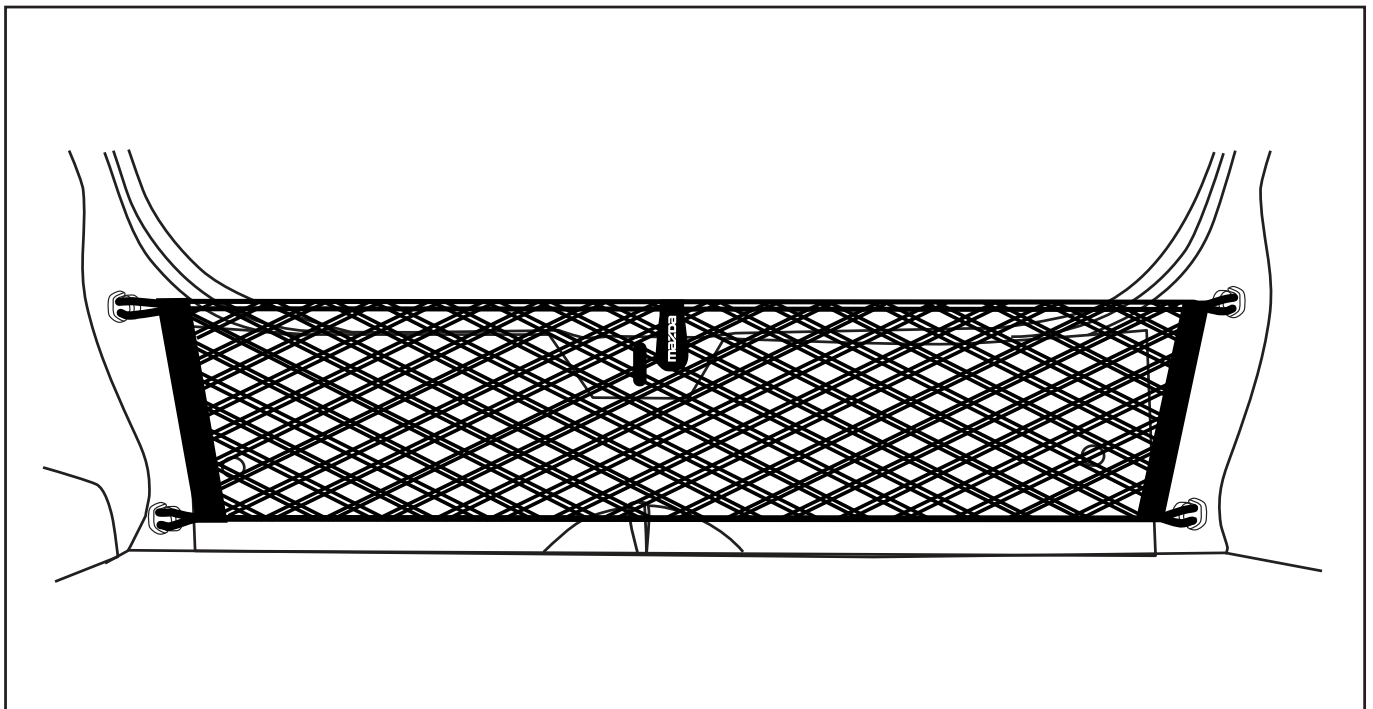

Fig. 20
21. Mount the cargo net – pull tab should be on the forward side of the net (Fig. 20).